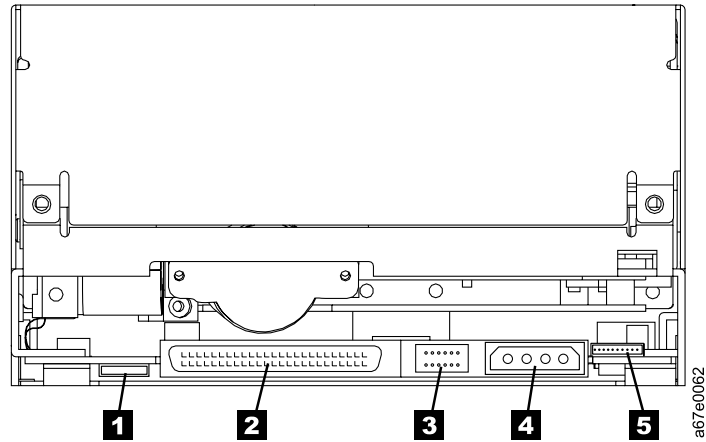

Figure 2. Rear view of the IBM TotalStorage LTO Ultrium 2 Tape Drive Model T400 (SCSI drive)
You can set the SCSI ID on the Ultrium 2 Tape Drive by installing 2-mm jumpers on the drive's SCSI ID connector (see **3** in Figure 2 on page 14). Your tape drive may come set to a default SCSI configuration, with jumpers already installed. To change the default SCSI configuration, contact your sales or technical support representative. You can change the SCSI ID by rearranging, adding, or removing jumpers.
- \_\_\_ 1. Locate the SCSI ID connector (see **3** in Figure 2 on page 14).
If your enclosure uses a SCSI ID switch (rather than jumpers), connect the switch to the drive's SCSI ID connector (see **3** in Figure 2 on page 14). If any jumpers are pre-installed, be sure to remove them before connecting the switch. The SCSI ID switch must be compatible with the drive's SCSI ID connector and must make an electrical connection between the same pins as the jumpers to achieve the same corresponding SCSI ID.